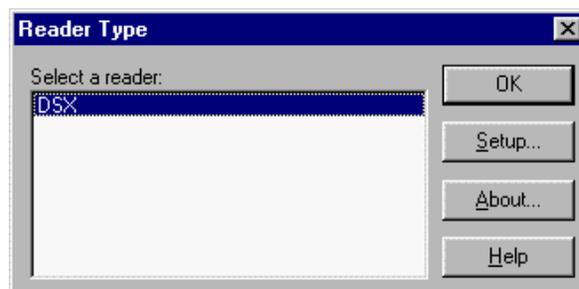

Figure 22. Reader Type Dialog Box
1. Select **Configure Reader** from the **Tools** menu. The Reader Type dialog box is displayed (Figure 22).